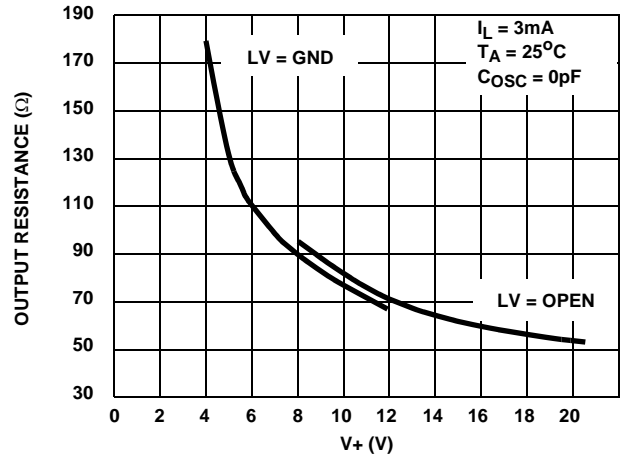

FIGURE 2. OUTPUT SOURCE RESISTANCE AS A FUNCTION OF SUPPLY VOLTAGE
The output characteristics of the circuit in Figure 16A can be approximated by an ideal voltage source in series with a resistance as shown in Figure 16B. The voltage source has a value of -(V+). The output impedance (RO) is a function of the ON resistance of the internal MOS switches (shown in Figure 2), the switching frequency, the value of C1 and C2, and the ESR (equivalent series resistance) of C1 and C2. A good first order approximation for RO is: